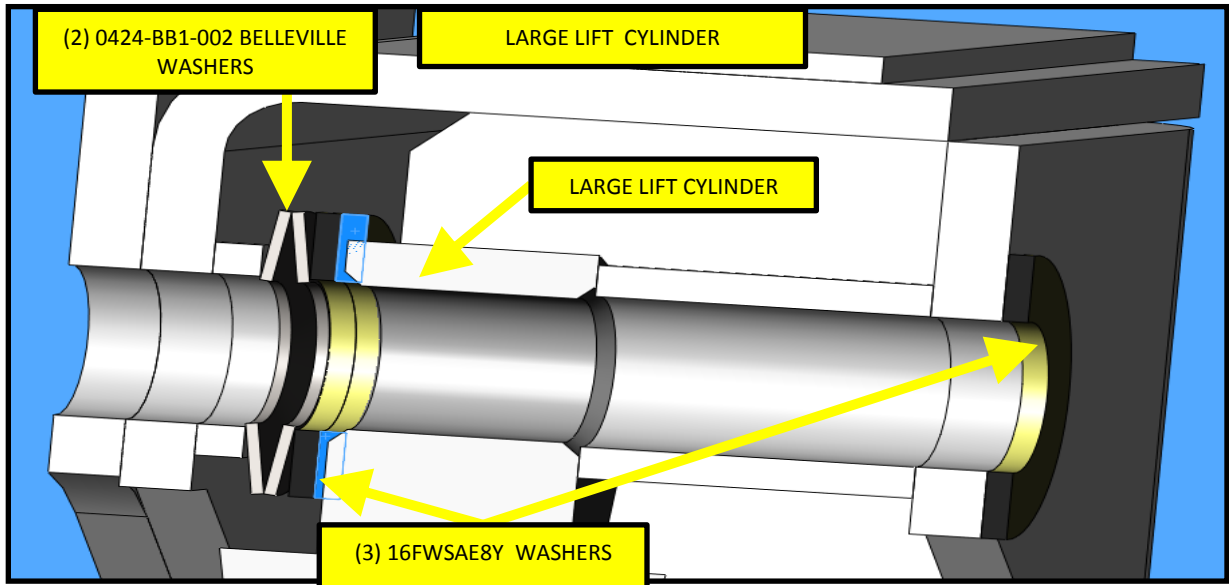

FIG. 19-1
- b. Insure that the Belleville washers are oriented correctly. Refer to FIG. 19-1.
- c. The Bellville washers will compress upon installation. An interference between the inboard 16FWSAE8Y washer and the lift cylinder, this interference is removed once the (2) 0424-BB1-002 Bellville washers are compressed. Refer to FIG. 19-1.